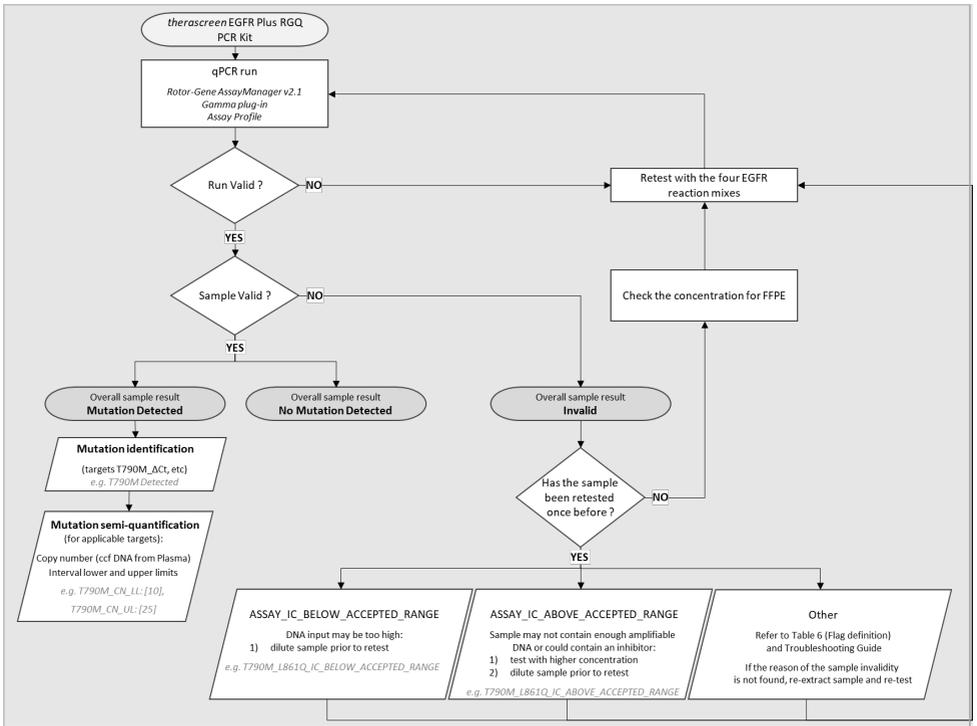

Figure 20. theascreen EGFR Plus RGQ PCR Kit decision flowchart.
- If any of these run controls does not conform, the flag "ASSAY_INVALID" will be triggered. If this flag is triggered, the run is considered invalid and the experiment needs to be performed again (decision flow chart for retests is presented in Figure 20).
Validity of the Exon 2 Internal Control is based on compliance of Ct values with pre-defined specifications. The internal control must be valid for the sample results to be interpreted. A valid internal control indicates sufficient DNA input and quality as well as the absence of interfering substances. In case of invalidity, refer to the decision flow chart presented in Figure 20.
The procedure for retests is summarized in Figure 20.